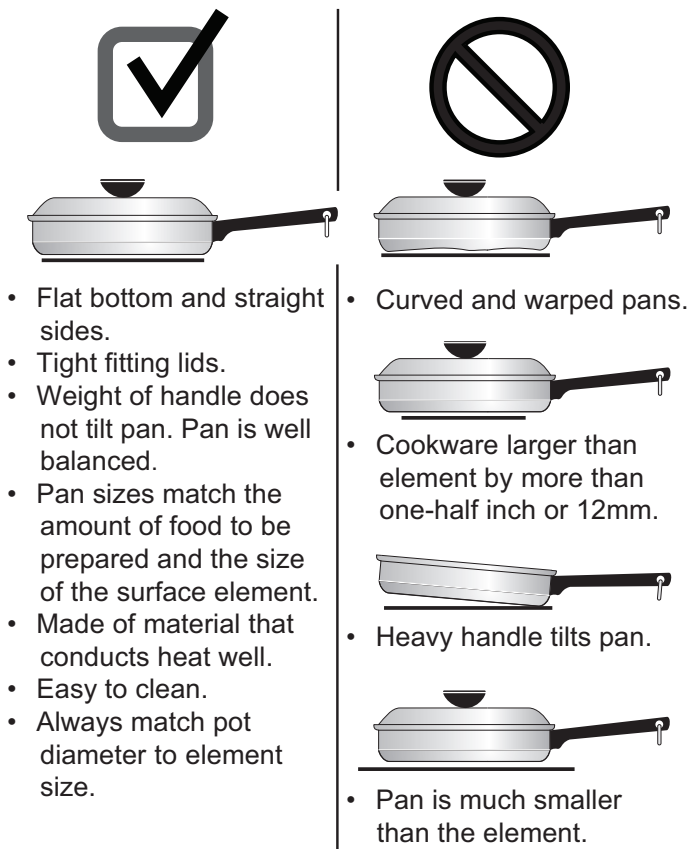

Figure 4: Proper cookware
- Make sure the burner grates are properly placed on the cooktop before using the surface burners (Figure 4). The grates are designed to rest inside the recess on the cooktop.